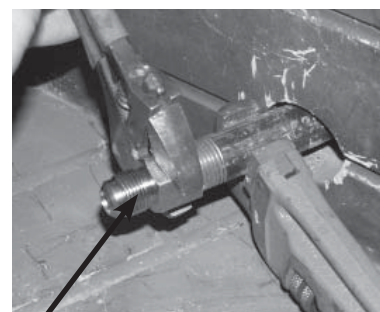

Fig. 13-3 Attaching the elbow
5. Attach the NPT side of the connector kit fitting to the fireplace gas stub (see Fig. 13-3), using Teflon tape or pipe compound resistant to propane gasses on the stub. Tighten securely.